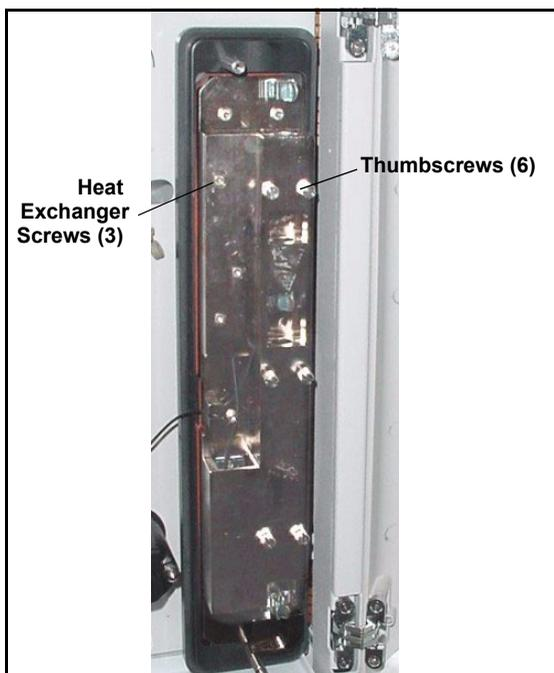

Figure 5-22. ICS-2000 Column Heater Cover Removed
5. Unscrew the six thumbscrews on the top metal plate (see Figure 5-22) and remove the plate.